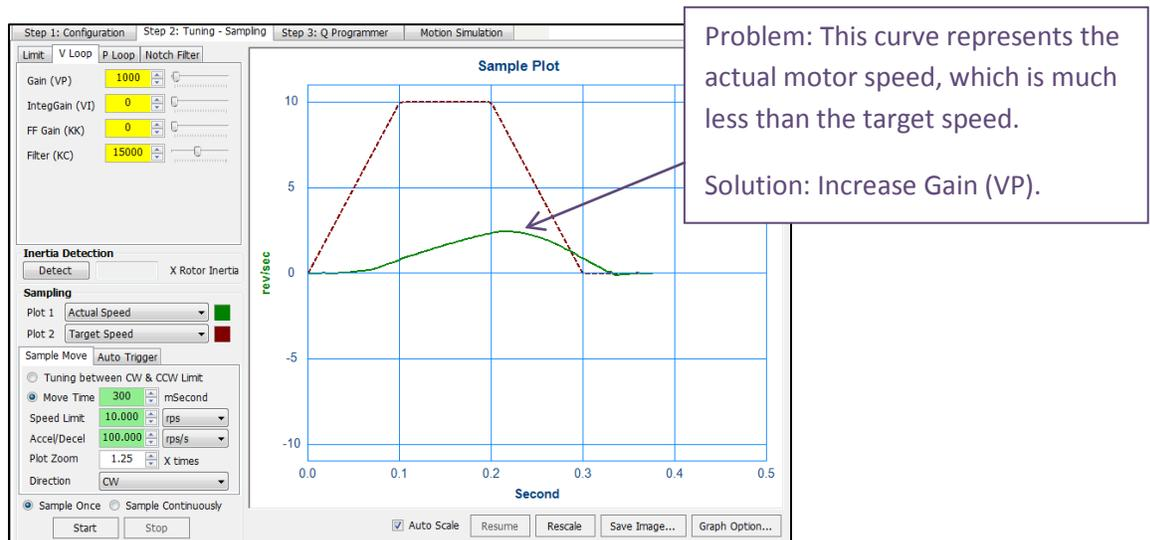

Figure 2a: Sample move with Actual vs. Target Speed plotted
- c) Observe response (Actual Speed); see **Figure 2a** below
- d) Repeat sample move and adjust Gain (VP) until the Actual Speed is between 80-90% of the target speed. Depending on the load coupled to the motor shaft and the Speed Limit set for the sample move, this final VP gain setting will vary.